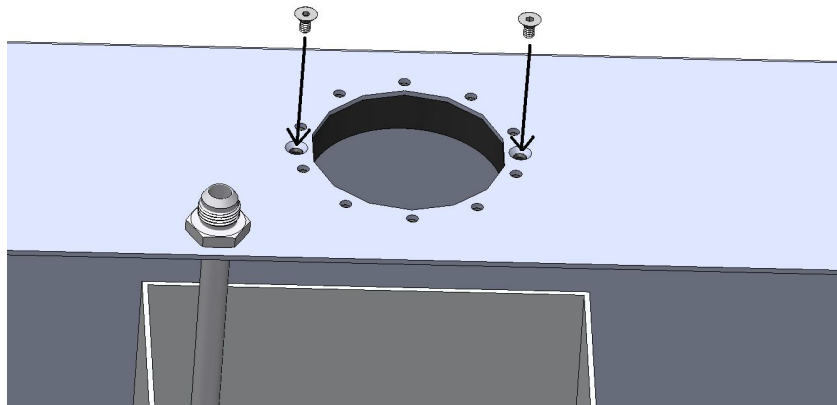

FIGURE 1-5
7. Install the fuel pump retainer ring into the tank and secure it as shown in **Figure 1-5** with the two tapered screws provided using thread sealant on the threads to prevent leaks.